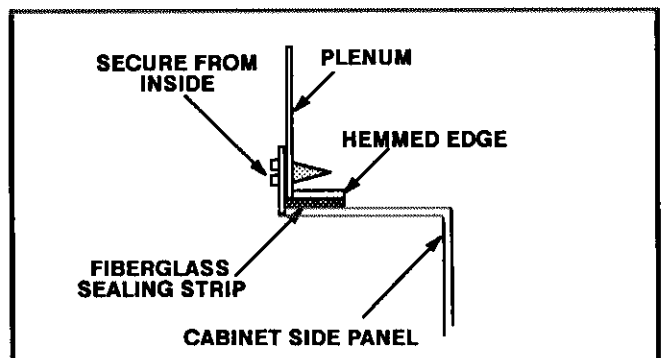

FIGURE 6
- 4- In closet installations, it may be impossible to install sheet metal screws from the outside. In this case, make plenum with a removable front and install screws from the inside. See figure 6.